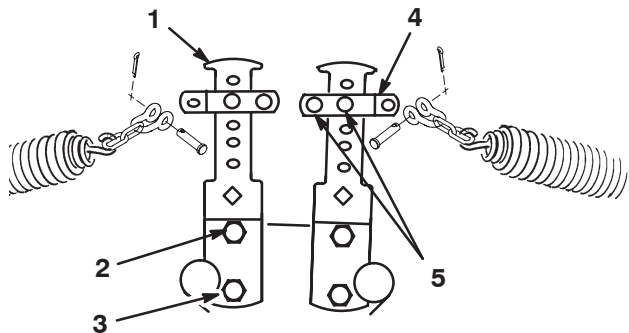

Figure 14
4. Secure the other end of the spring to the appropriate hole (see below) on the front and rear counterbalance arms (Fig. 14 & 15) with the spring shackle with the chain, clevis, clevis pin, and cotter pin.
5. Secure the other end of the spring to the second hole from the top with the spring shackle with the chain, clevis, clevis pin, and cotter pin (Fig. 14).
8. Secure the bottom of the counterbalance arm to the frame with the cap screw and nut previously removed. Tighten the top cap screw (Fig. 14).